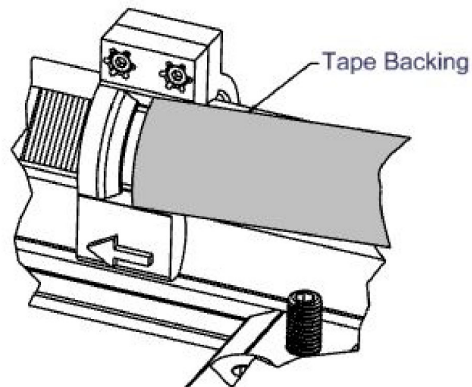

Figure 6 - Tape Position as dictated by Alignment Jig
1. Pull the barcode tape out of the Tape Jig, remove the backing paper, and feed it through the tape alignment jig as shown. Refer to **Figure 6**.